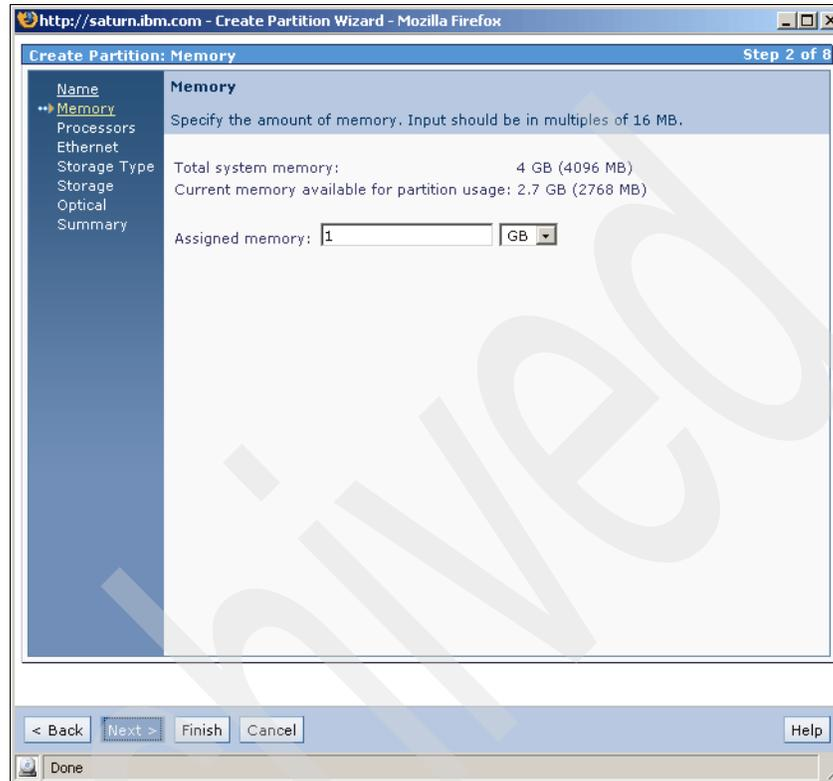

Figure 4-17 Create partition - configure the amount of memory
6. Define the amount of memory that will be assigned to the partition. In Figure 4-17 we chose 1 GB. Click **Next** to proceed.